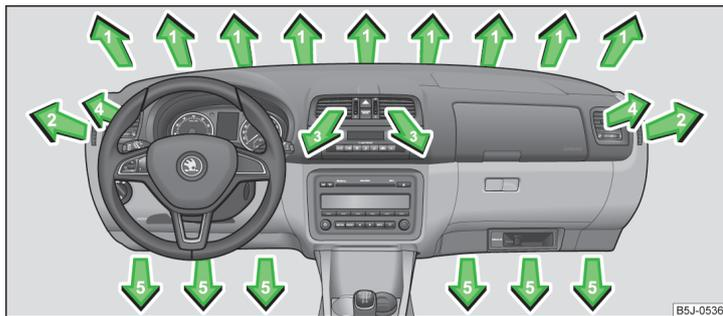

Fig. 94 Air outlet vents
The direction of airflow can be adjusted using the air outlet vents **3** and **4** » Fig. 94 and the outlets can also be opened and closed individually.
- Turn the vertical wheel (air vents **3**) » Fig. 94 or the horizontal wheel (air outlet nozzles **4**) to the position.
- Turn the vertical wheel (air vents **3**) » Fig. 94 or the horizontal wheel (air outlet nozzles **4**) to the **0** position.
- In order to change the strength of the air flow, swivel the horizontal lamellas with the aid of the moveable adjuster » Fig. 94.
We recommend that you leave the air outlet vents **3** » Fig. 94 on page 85 in the open position in all operating modes.